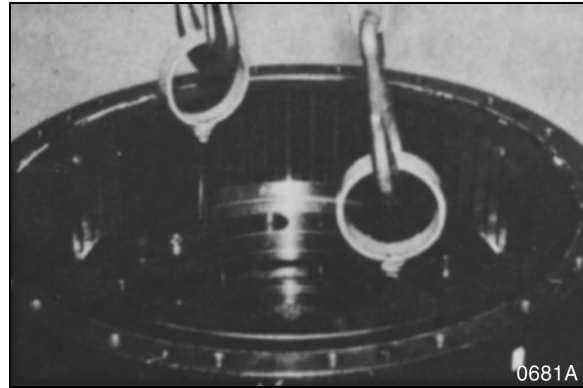

Figure 73
3. Lift the spindle (2, Figure 13) into position over the hub (1). As shown in Figure 73, lifting ring eyebolts can be installed to facilitate handling the sections. If the hub (1) and spindle (2) cannot be assembled smoothly, without the application of external force, be sure to use only a plastic or other soft-faced hammer to strike upper surfaces of the hub (1) and spindle (2), to help fit them into position.